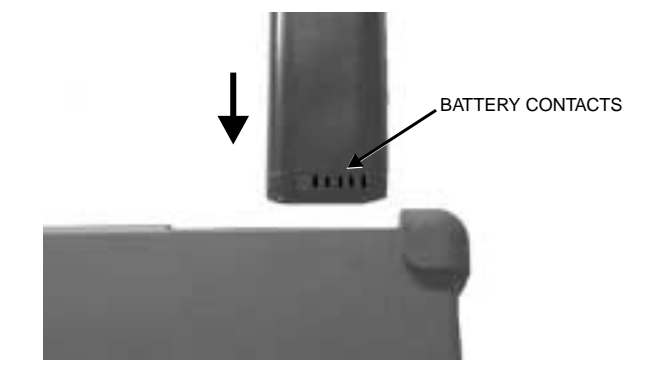

Figure 10. Battery Orientation
3. Lift the door and remove, as illustrated in Figure 10.